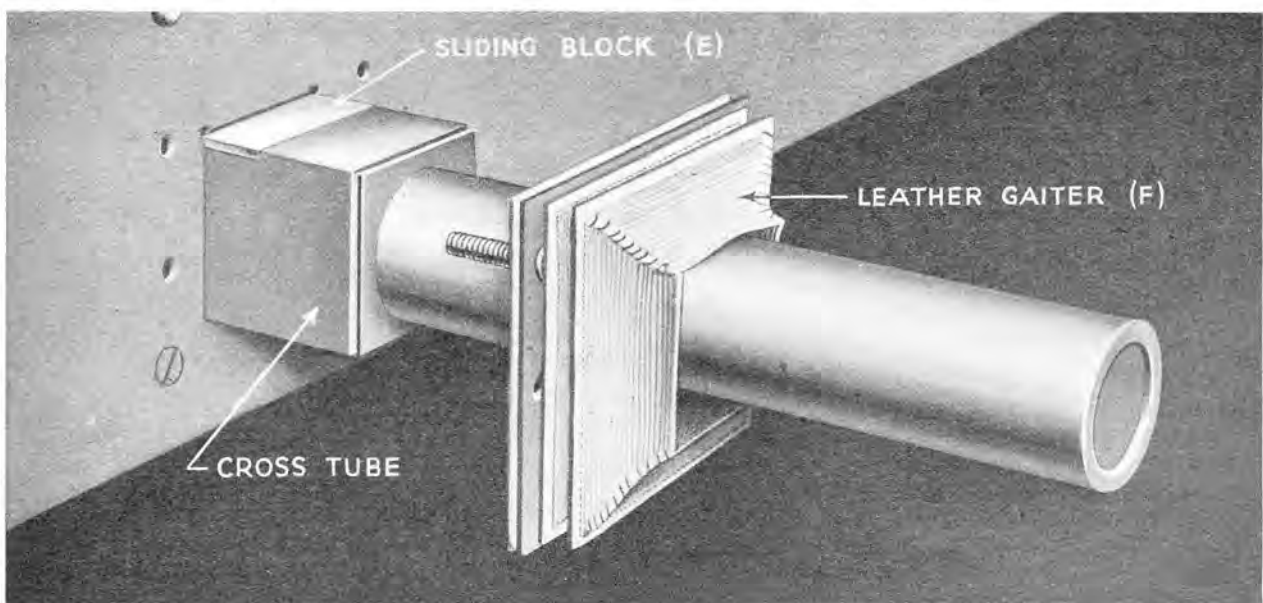

Fig. 118. STEERING CROSS TUBE.
1. Remove the track and jack up the vehicle, finally withdrawing the bogie assemblies (Fig. 118).